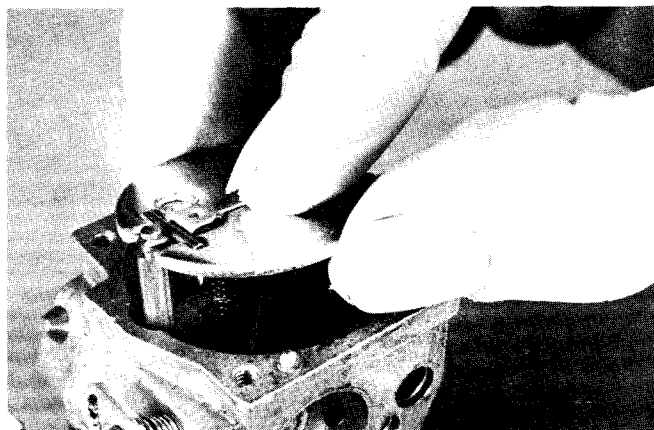

Fig. 58 — Installing Inlet Needle and Plate
3. Hook inlet needle in lever and install over spring, Fig. 58.